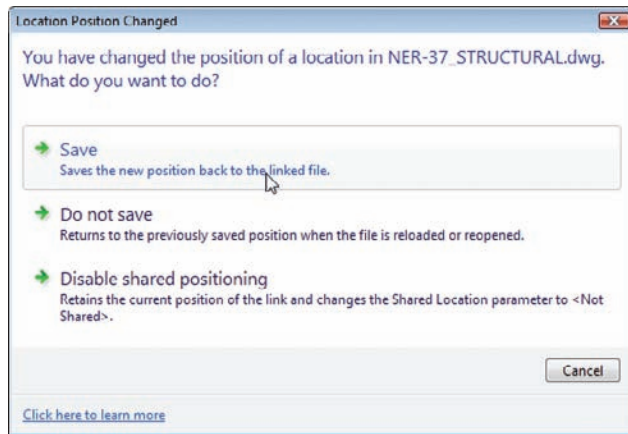

FIGURE 20.24 Saving the coordinates to the AutoCAD file
10. Once you save the Revit model, you will be prompted to save the new coordinates in the DWG. Click the Save button, as shown in Figure 20.24.